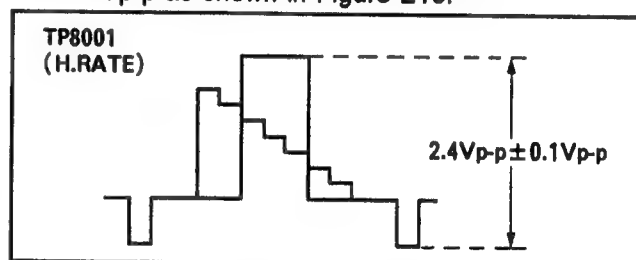

Figure E10
5. Adjust VR3003 so that the level is 2.4Vp-p \pm 0.1Vp-p as shown in Figure E10.